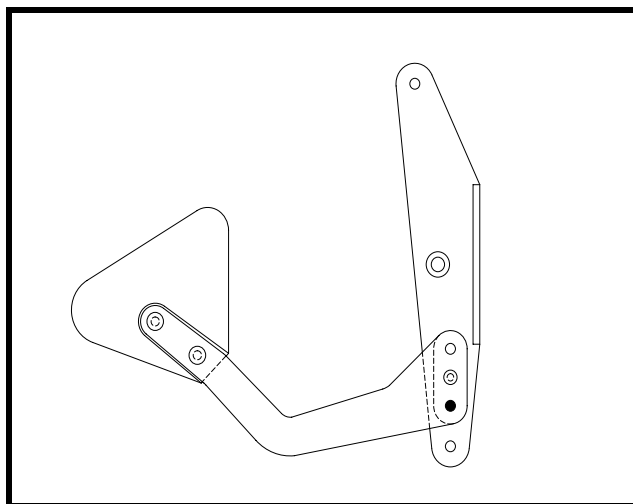

Figure 9
- ❑ Rivet the balance weight in place. See Figure 9. To prevent any corrosion, you should bed the arms down in wet zinc chromate primer or bond with epoxy.